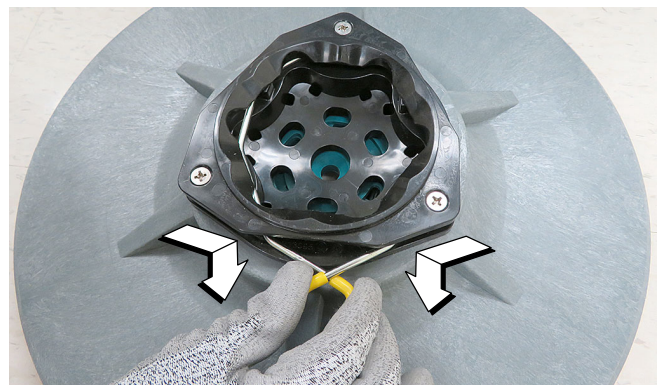

FIG. 12
3. Set the yellow spring clips to the open position to make brush installation easier. Press spring clips together then downward to set (Figure 12).